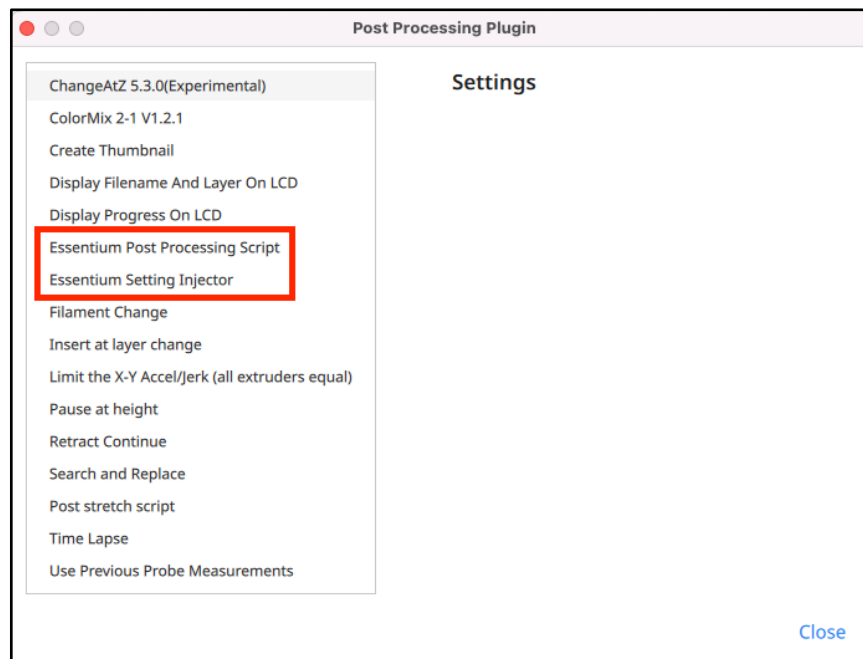

Figure 26: Adding Post-Processing Scripts
16. Add the following post-processing scripts by selecting the name from the script, and then clicking 'Close' (See Figure 26):